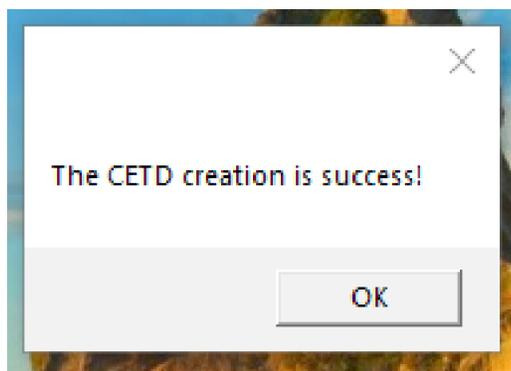

Figure 20
3. From the LSPEntity window, click the Create CETD button (Figure 18). A popup will appear when the CETD is created successfully (Figure 20).